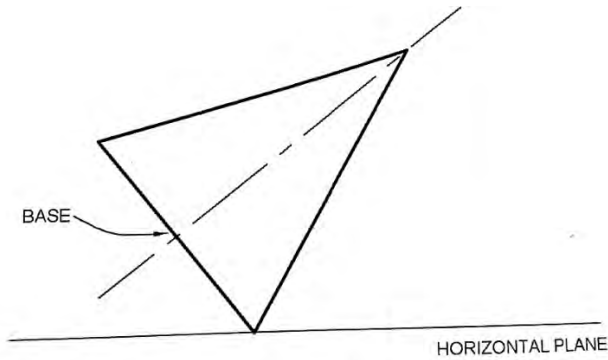

Figure 1
7. Figure 1 shows the front elevation of a cone tilted at an angle